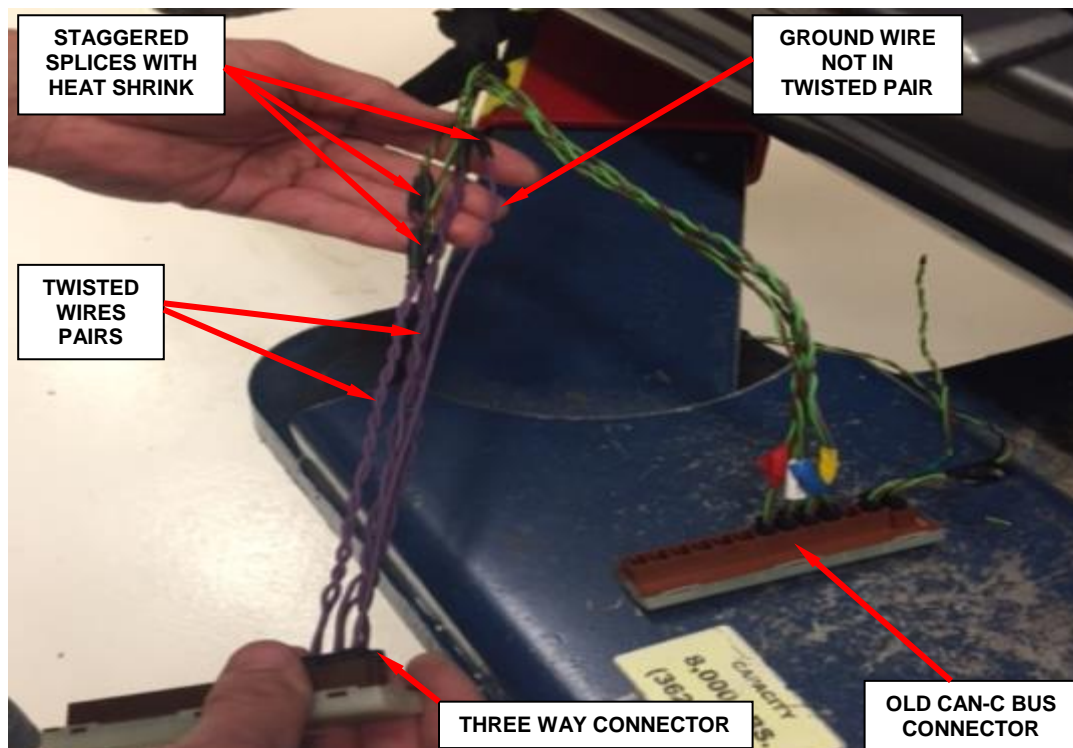

Figure 15 – Splice Wires One at a Time
- e. Using the supplied splice band clamps and crimp tool 10042, crimp the two CAN-C wires that had the insulation stripped on the wire harness side to the **NEW** CAN-C wires (Figure 15).
- g. Slide the shrink tube evenly over the splices and apply heat to the shrink tube until glue comes out of both ends of the shrink tube (Figure 15).
- h. **Twist the two CAN-C wires at a rate of 1 twist per inch.** Twist as many times as necessary to achieve and hold the one twist per inch requirement (Figure 15).
- l. Slide the shrink tube evenly over the splice and apply heat to the shrink tube until glue comes out of both ends of the shrink tube (Figure 15).